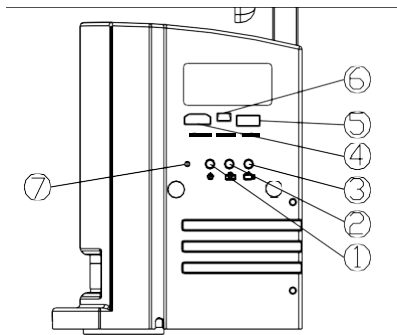

Fig. 10
- 1) Press the on-off key ① for 3-5 seconds. The indicator ⑦ will turn from orange to green, indicating the microscope is starting up. (See Fig. 10)